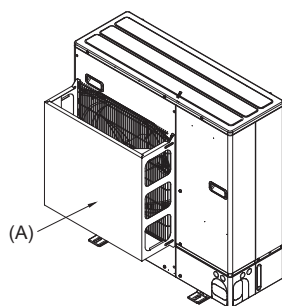

Fig. 2-5
- (2) Install an optional air protect guide if the unit is installed in a location where strong winds from a typhoon, etc. may directly enter the air outlet. (Fig. 2-5)